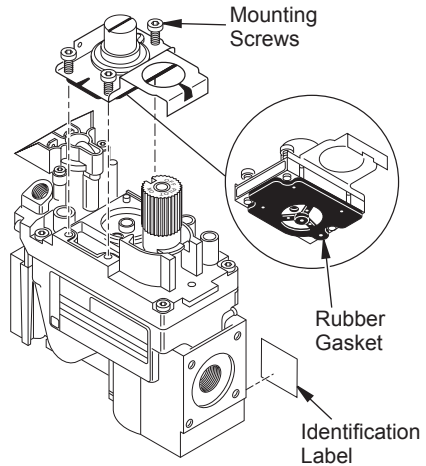

Figure 14 - Installing Pressure Regulator Assembly
2. Insure that the rubber gasket is properly positioned on the new pressure regulator assembly. Install the new pressure regulator assembly to the valve using the new mounting screws supplied with the kit. Tighten screws securely (approximately 25 in-lbs.) See Figure 14.
3. Install the identification label enclosed with the gas valve regulator to the valve body where it can easily be seen (see Figure 14).
If pilot flow is weak adjustments can be made with the pilot adjustment screw. The screw is located below the wire harness on gas valve body (see Figure 14).